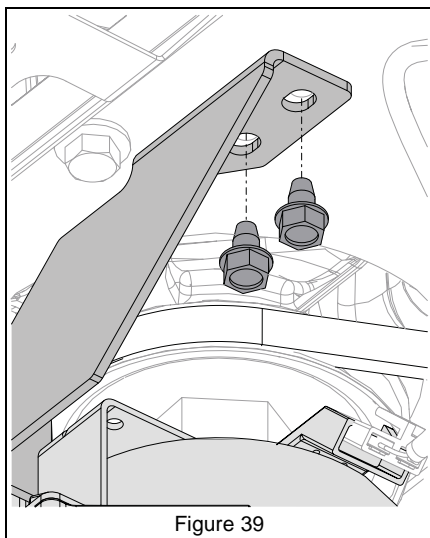

Figure 39
4. Reinstall clutch stop bracket and secure with original hardware. See Figure 39.